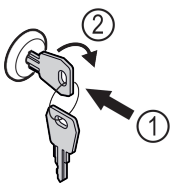

Fig. 132 Example illustration
- ▶ Insert key Fig. 132 (1).
- ▶ Turn key clockwise by 90° Fig. 132 (2).